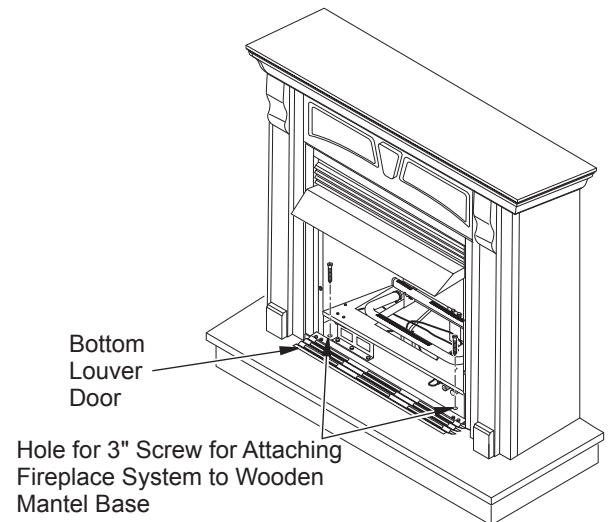

Figure 12 - Attaching Fireplace to Mantel and Mantel Base
6. **Firebox with louver door:** Lower bottom louver door. Use two 3" screws provided in hardware package and attach fireplace/box to wooden base (see Figure 12). Close louver door.